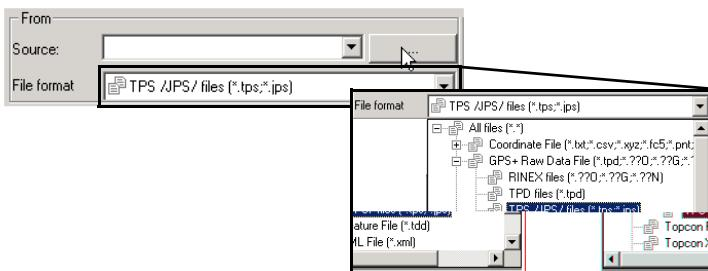

Figure E-23. Select Raw Data File Format
2. In the *From* panel, select the *File format* of the raw data file (Figure E-23).